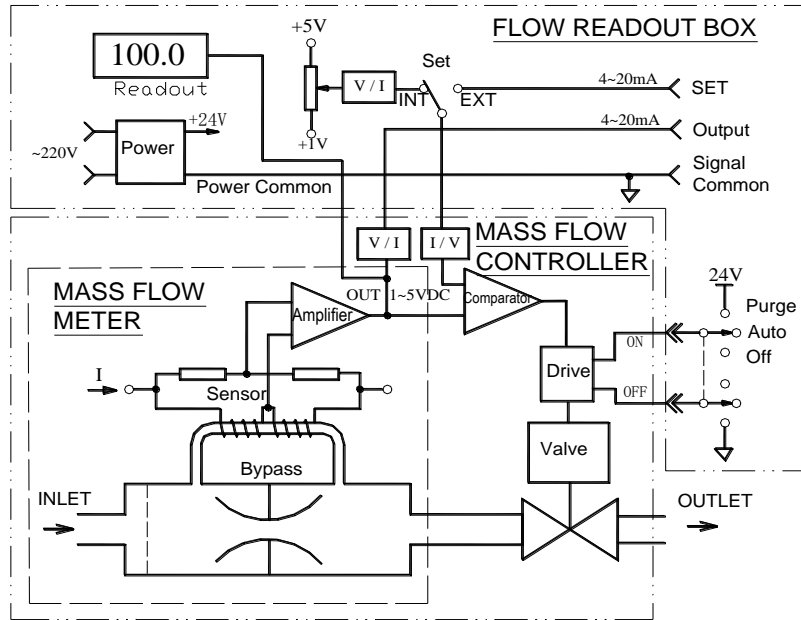
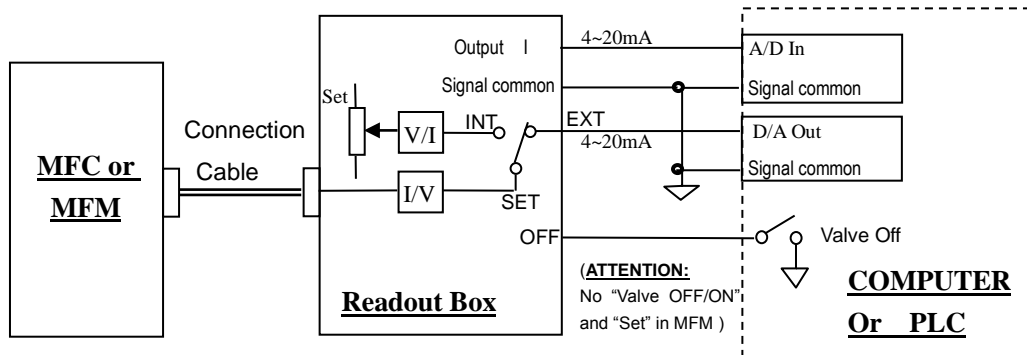
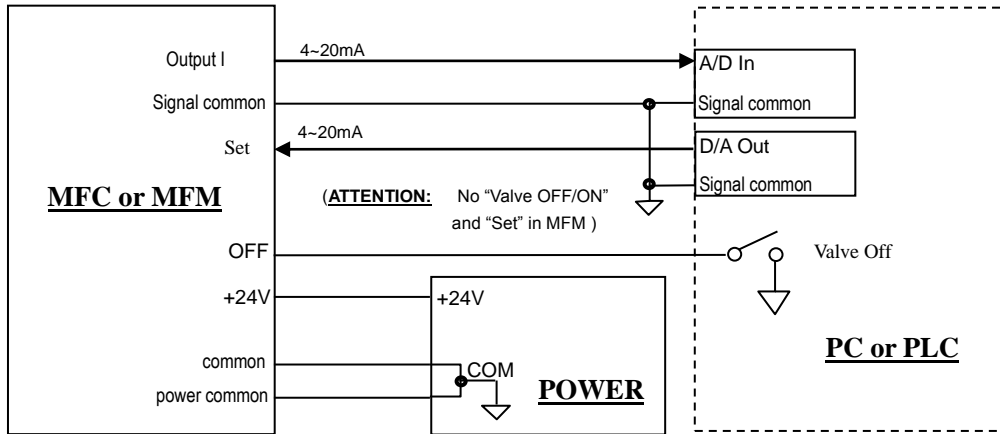

Figure5. Principle of MFC
Figure15. Connection with PC through Readout Box
Figure 16. PC Directly Connection
According to the Capillary Heat Transfer Temperature Difference Calorimetry Theory, the flow sensor measures the mass flow without pressure compensation. The sensor heated the flow signal which was measured by electric bridge and amplified it through amplifier, the amplified flow testing voltage is compared with presetting voltage, the differential signal will control valve after amplified, then the flow rate of closed loop control will be as same as presetting flow rate. The bypass divider controls the flow rate. The corresponding D08 series Flow Readout Boxes have stabilized power supply, 3 and 1/2 digital voltage meter, presetting potentiometer, external & internal converters and three-phase switches. Figure 5 is exactly showing the operating principle while MFC is connecting
- a. Connection through Flow Readout Box with PC or other external signal. (Figure 15)
If PC or PLC need perform the OFF function of valve control, it could be accomplished by use one RELAYS (two sets) transfer contacts, showing in Figure 15.
b. PC Directly Connection (Figure 16)
Please find the reference in Figure 5 and Figure 15, it should set the switch of Readout Box to the “External” and turn the switch to the position of “CONTROL”, and then startup PC.
Please have the reference in Figure 5 and Figure 16, after MFC warming up, it could have PC startup.
When the valve switch sets to “CONTROL” position, users could perform valves control by “CONTROL” wire of external control signal socket, please find the reference in Figure 5 and Figure 15. When valve control wire connects with +15 V, valves will be shutoff; when valve control wire connects with -15 V, valves will be turned to the top of maximum to purge position; when valve control wire hangs in the air, it’s in the auto-control situation.